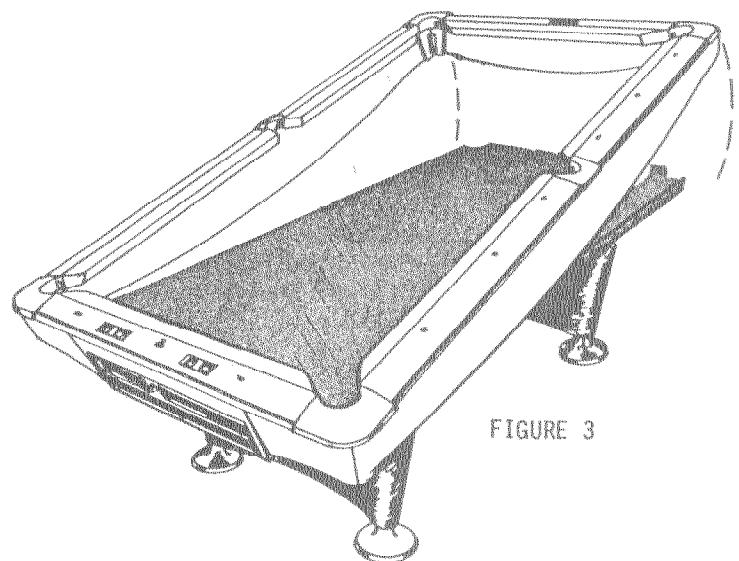

FIGURE 3
20. Carefully turn rails and aprons assembly over. Place over table with head end elevated as shown in Figure 3.